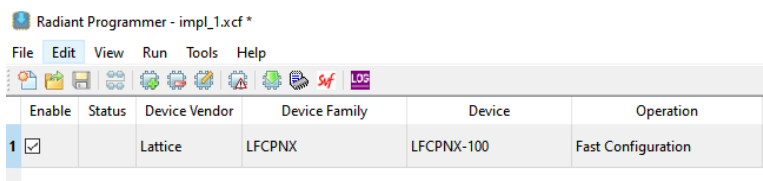

Figure 7.12. Device Selected for Programmer
- Click on the highlighted item under the **Device** field to un-highlight it as shown in Figure 7.12.